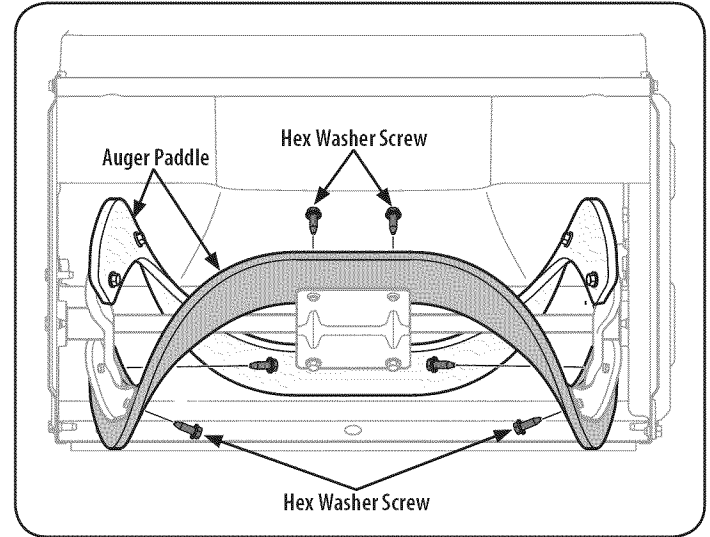

Figure 25
To change the rubber paddles, proceed as follows and refer to Figure 25:
3. Remove the existing rubber paddles by unthreading the hex washer screws which secure them to the auger. See Figure 25.